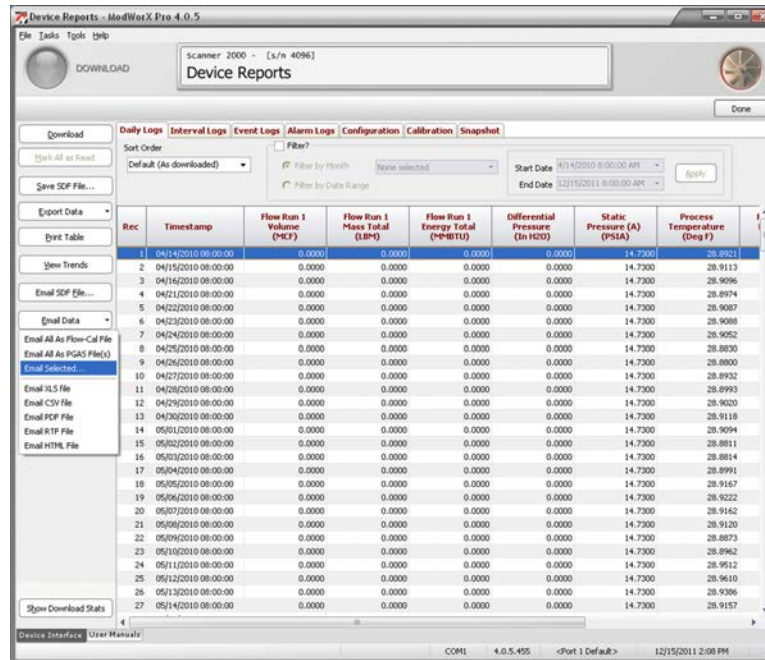

Figure 14.30
- Click the **Email Data** button at the left of the screen and select **Email Selected** from the dropdown list (Figure 14.30).